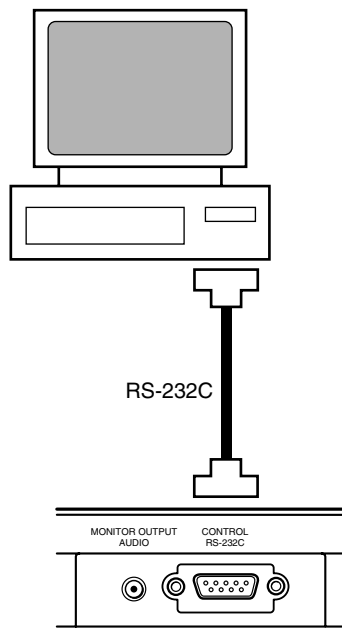

Fig. 4-0-1
- 1) Connect a computer as shown in Fig. 4-0-1, and then perform the adjustment using the adjustment software TLP511.EXE. (When using a drive C, type C: ¥TLP511.EXE and press enter key.)